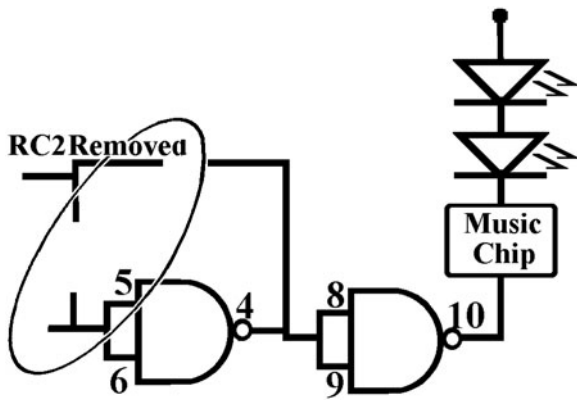

Figure L34-23
- If the sound is scratchy, place two or three LEDs in line with the music chip, as shown in Figure L34-23. The music chips run off 1.5 volts. Too much voltage can keep them from working. The LEDs use up voltage, dropping it down to where the music chip can function properly.